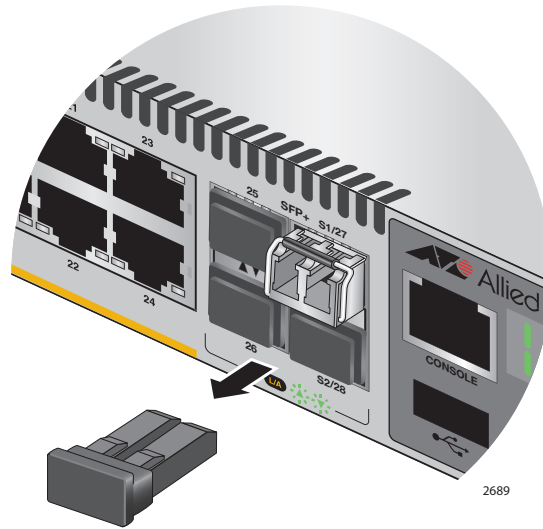

Figure 57. Removing the Dust Cover from a Stacking Transceiver
- Remove the dust cover from the transceiver, as shown in Figure 57 on page 99.